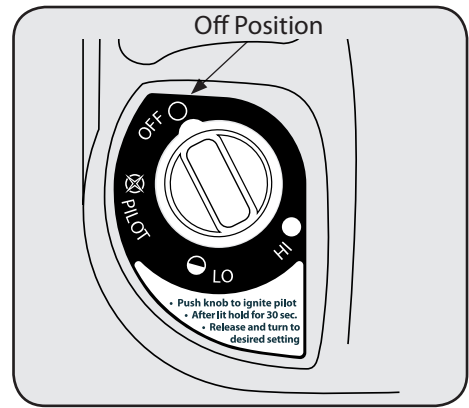

Figure 1
1. Make sure four-position Control Knob is in "OFF" position. See Figure 1.
- Make sure four-position Control Knob is in "OFF" position. See Figure 1 on previous page.